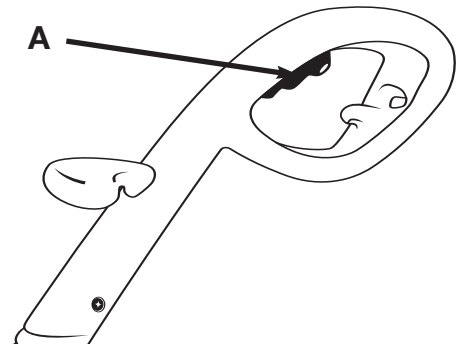

Fig. 7
3. Take a secure hold of the grass trimmer. Without letting the trimmer touch the grass, press the switch (A) on the upper handgrip (Fig. 7). Let the string trimmer run for a few seconds and "bump" the string head against the lawn. Nylon line will automatically release. The cut-off knife in the debris shield will trim off excess line.